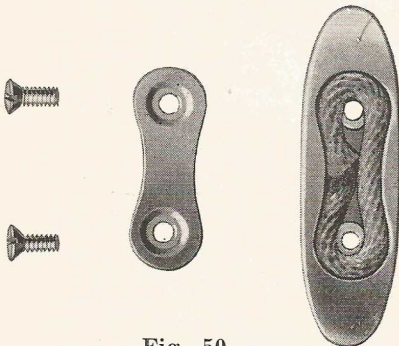

Fig. 50
3. Obtain new cord. Attach grip as shown Fig. 50. Use only the special cable provided by the manufacturer.